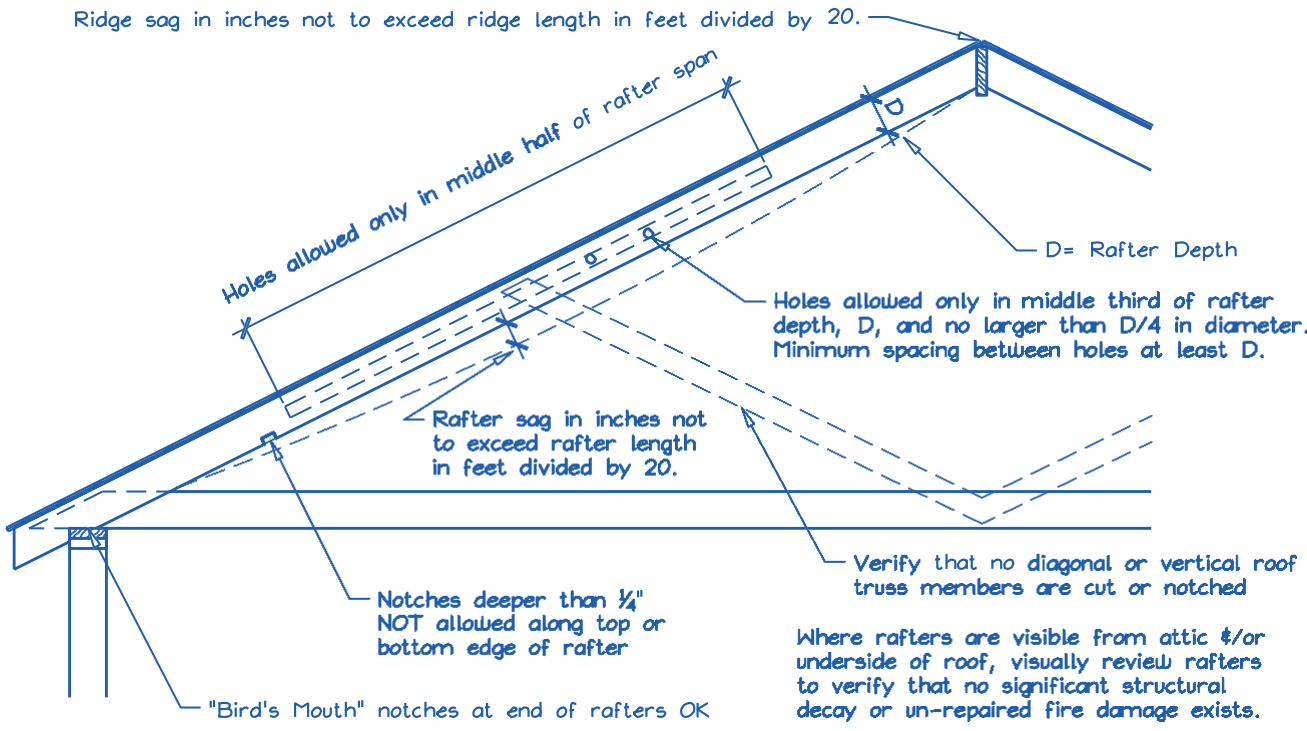

Figure 1. Roof Visual Structural Review (Contractor’s Site Audit) of Existing Conditions.
- 2) Does the roof structure appear structurally sound, without signs of alterations or significant structural deterioration or sagging, as illustrated in Figure 1? Y N